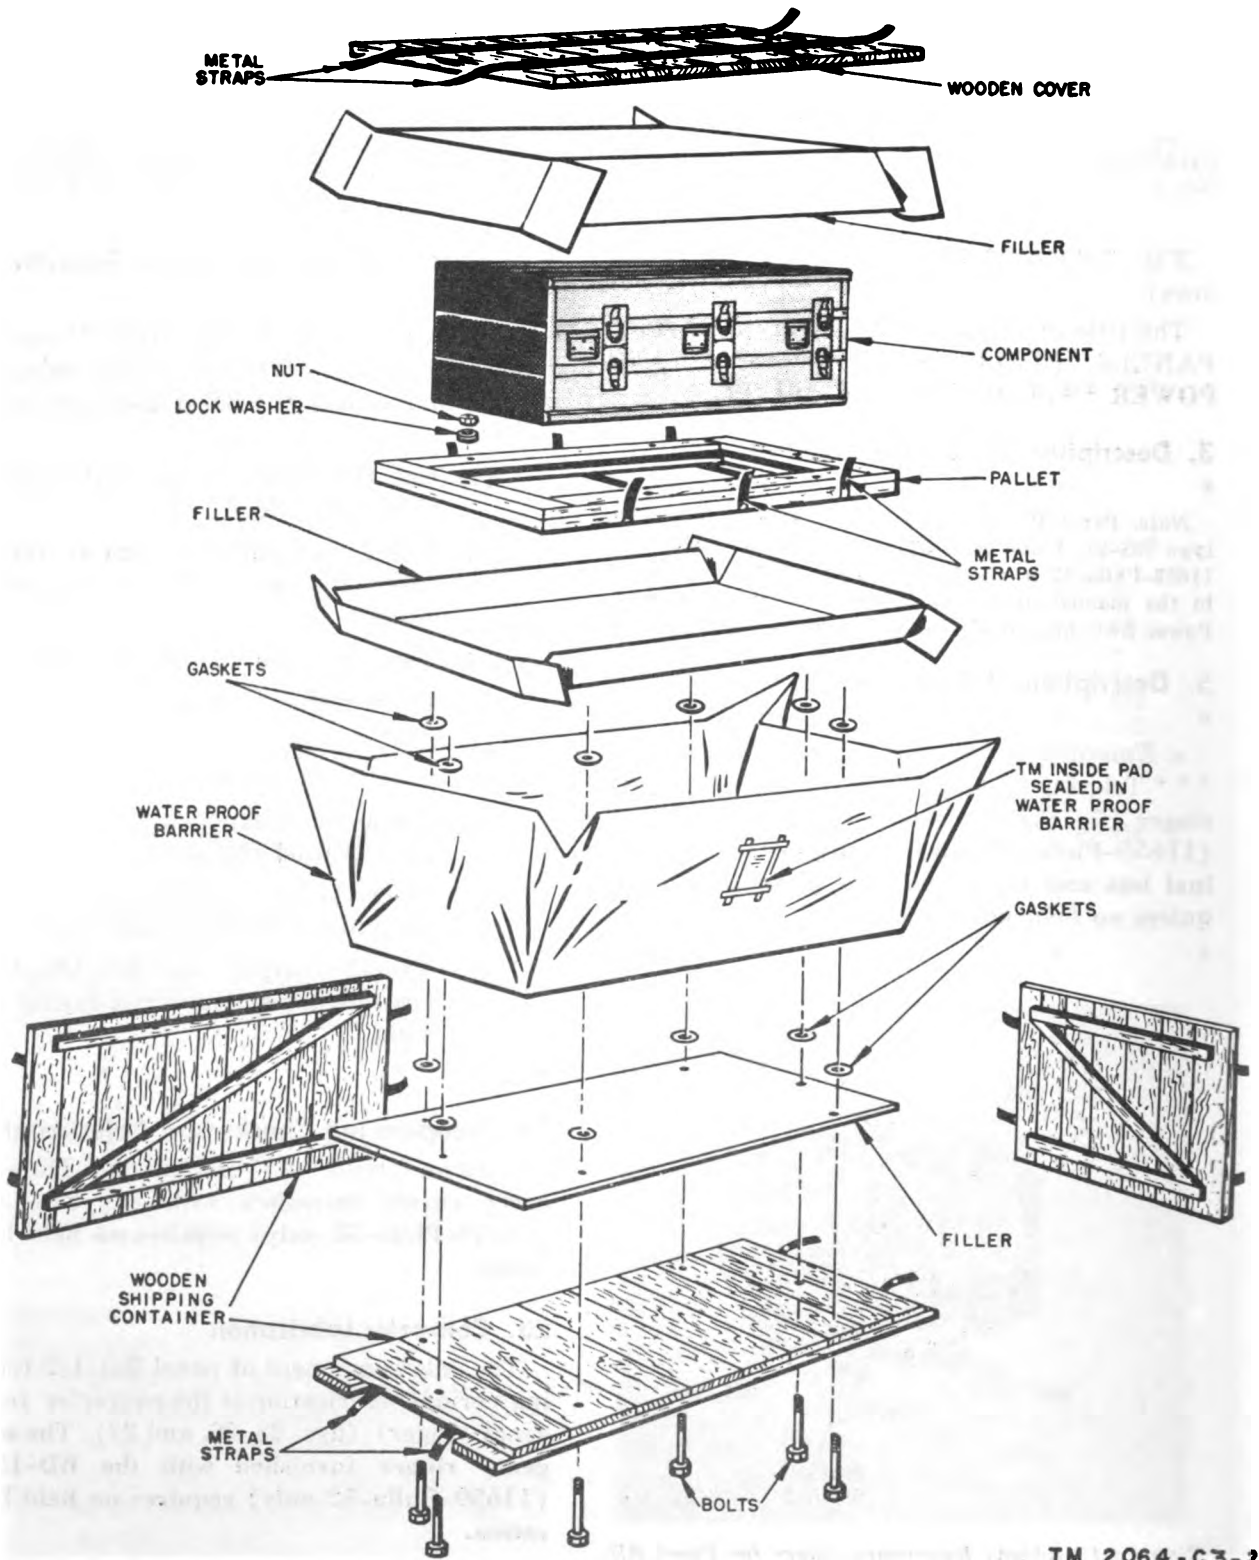

Figure 12.1 (Added) Panel BD-132-A (11659-Phila-52 only), packing and packaging diagram.
51. Uncrating and Unpacking Power Switchboard SB-361/TT (fig. 12.1)